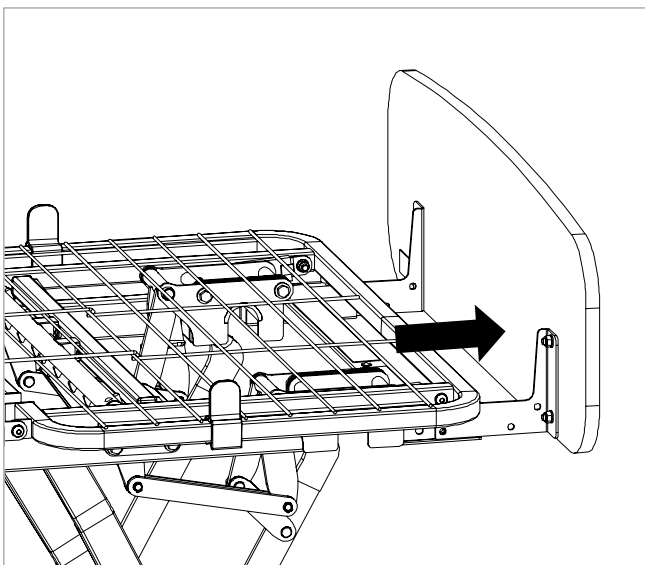
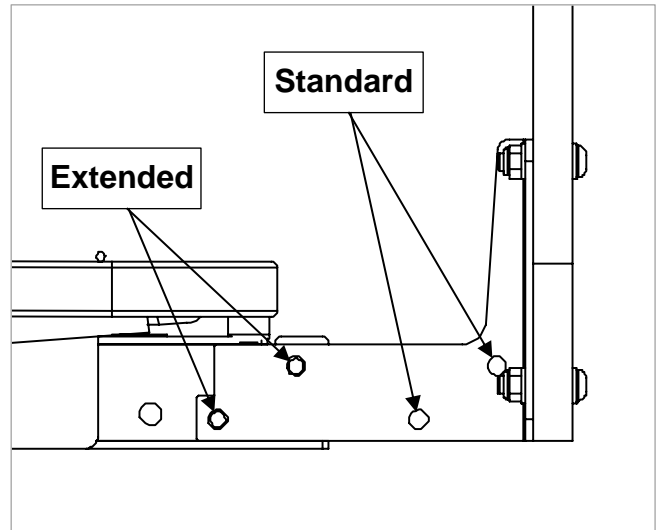

Figure 12.2
Figure 12.3
2. Slide the head/foot board outwards as Figure 12.2 until the holes in the headboard bracket marked 'Extended' in Figure 12.3 line up with the mounting holes on the bed frame.